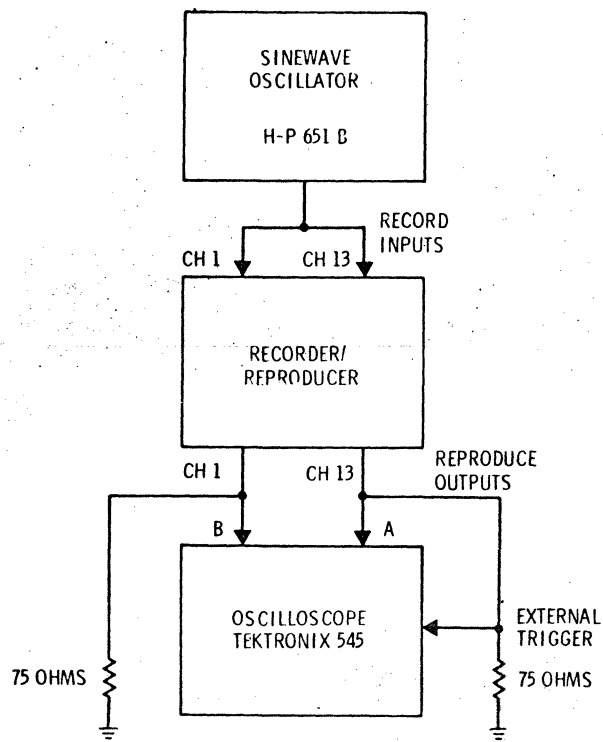

Figure 6-9. Test Setup for Azimuth Adjustment.
1. Connect test equipment as shown in Figure 6-9.